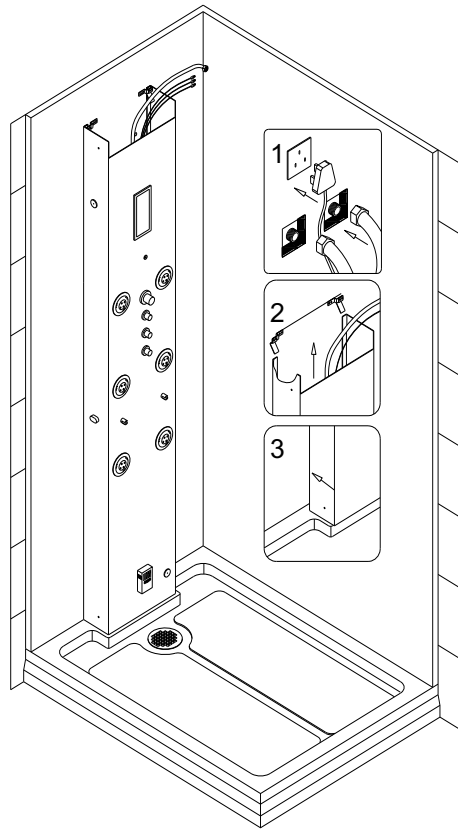

Fig. 11
4. Connect hot water line to the red mark water inlet and cold water line to the blue mark water inlet. Also connect the power supply line to the steam unit according to wire diagram. **Be sure to turn off the breaker before to do any power connections.** See fig.11 for details.
5. Pull the head shower supply line and wires for the top light, speaker and fan on top of the shower column for later connection. Secure the **Shower Column (11)** by **Column Wall Brackets** to the Wall and push it above **Retainer (36)**. See fig. 11 for details.